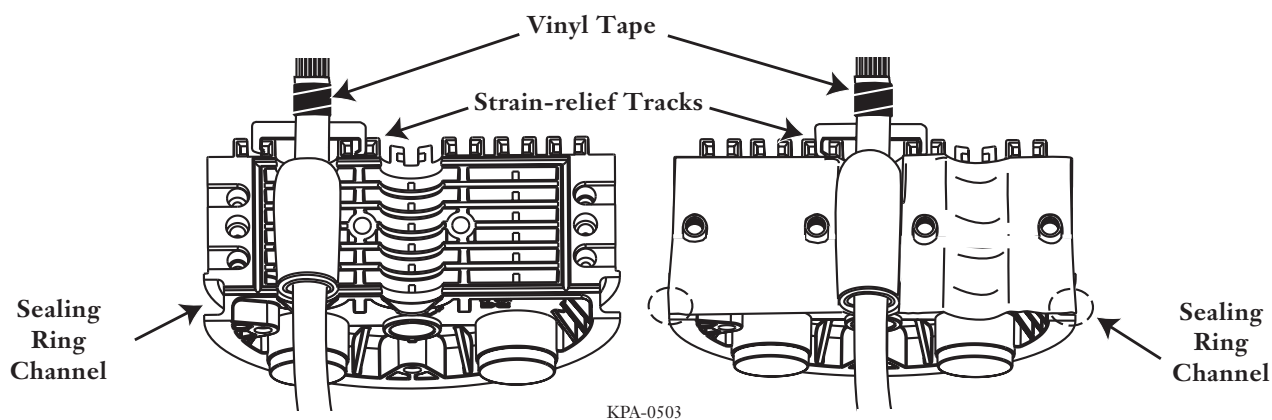

Figure 17 — Install Cable into End Cap
- Step 3** Place the other side of the express cable sheath on the taped end cap half (Figure 17) in the center express port by inserting the strain-relief bracket in the tracks.
- Step 6** Cut excess sealing tape from the sealing ring channel and strain-relief tracks (shown by dashed circles in Figure 17) using scissors or side cutters.